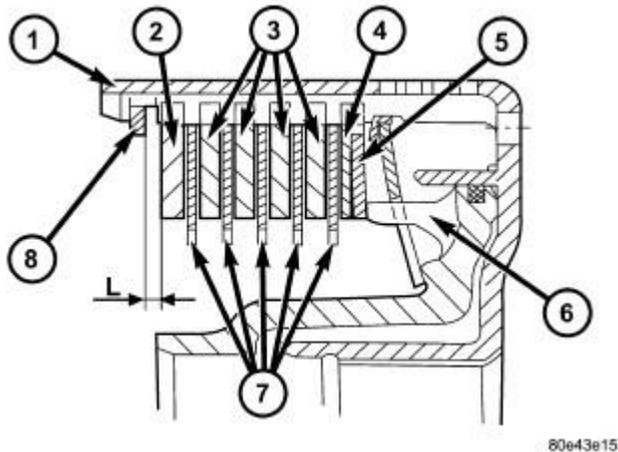

Fig. 152: Input Clutch K3 Stack-Up - Double Sided Discs
9. For transmissions using double sided friction discs, use a feeler gauge to determine the play "L" at three points between the snap-ring (8) and outer multiple-disc (2). Refer to **Fig. 152**.
10. During the measurement the snap-ring (8) must contact the upper bearing surface of the groove in the outer multiple-disc carrier.
12. Adjust with snap-ring (8), if necessary. Snap-rings are available in thicknesses of 2.0 mm (0.079 in.), 2.3 mm (0.091 in.), 2.6 mm (0.102 in.), 2.9 mm (0.114 in.), 3.2 mm (0.126 in.), and 3.5 mm (0.138 in.).